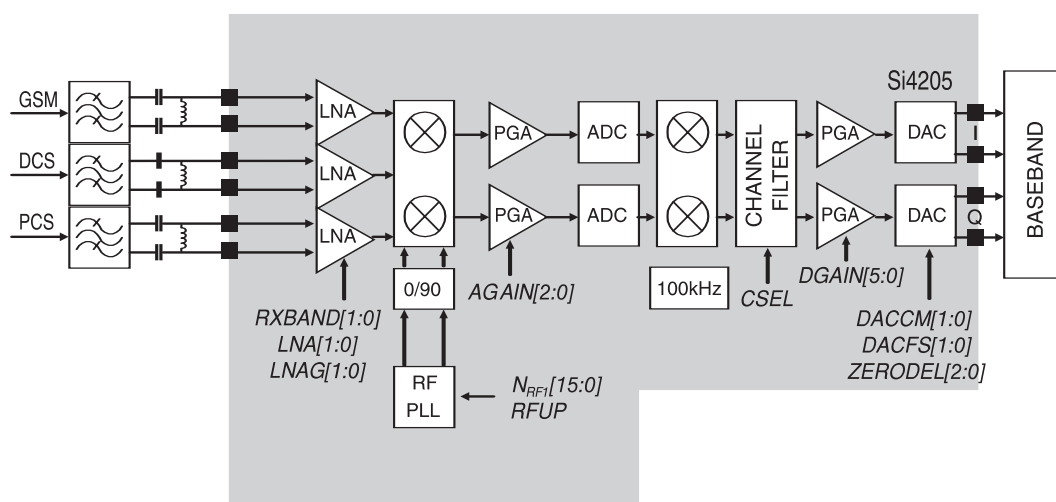

Figure 3-2 Block Diagram of Receiver part of SI4205
The LNA inputs are matched to the 150Ω balanced output SAW filters through external LC matching networks. The LNA gain is controlled with the LNAG[1:0] and LNAC[1:0] bits in register 05h (Figure 3-2).
B. Intermediate frequency (IF) and Demodulation
A quadrature image-reject mixer downconverts the RF signal to a 100KHz intermediate frequency (IF) with the RFLO from the frequency synthesizer. The RFLO frequency is between 1737.8 to 1989.9 MHz, and is internally divided by 2 for GSM 850 and E-GSM 900 modes. The mixer output is amplified with an analog programmable gain amplifier (PGA), which is controlled with the AGAIN[2:0] bits in register 05h (Figure3-2). The quadrature IF signal is digitized with high resolution A/D converters (ADCs).